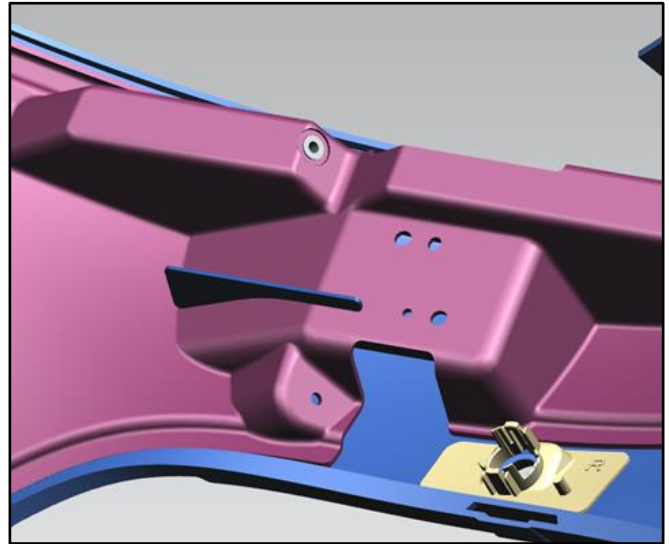

Figure 5
12. Align the plastic part to the contour of the rear bumper. (Refer to Figure 5.)